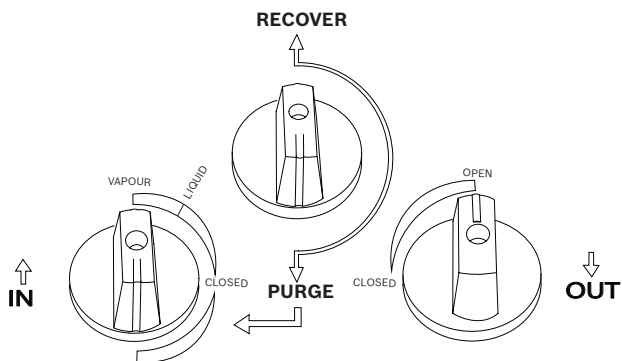

Fig. 5: Valve positions for purging residual refrigerant
4. Turn the recovery / purge (Black) knob of RG8.0 / RG4.0 to **PURGE** position (pointed downwards) as shown in Fig. 5.
5. Start the RG8.0 / RG4.0 and slowly turn the inlet (Blue) control valve of the RG8.0 / RG4.0 to **PURGE** position as shown in Fig. 5.